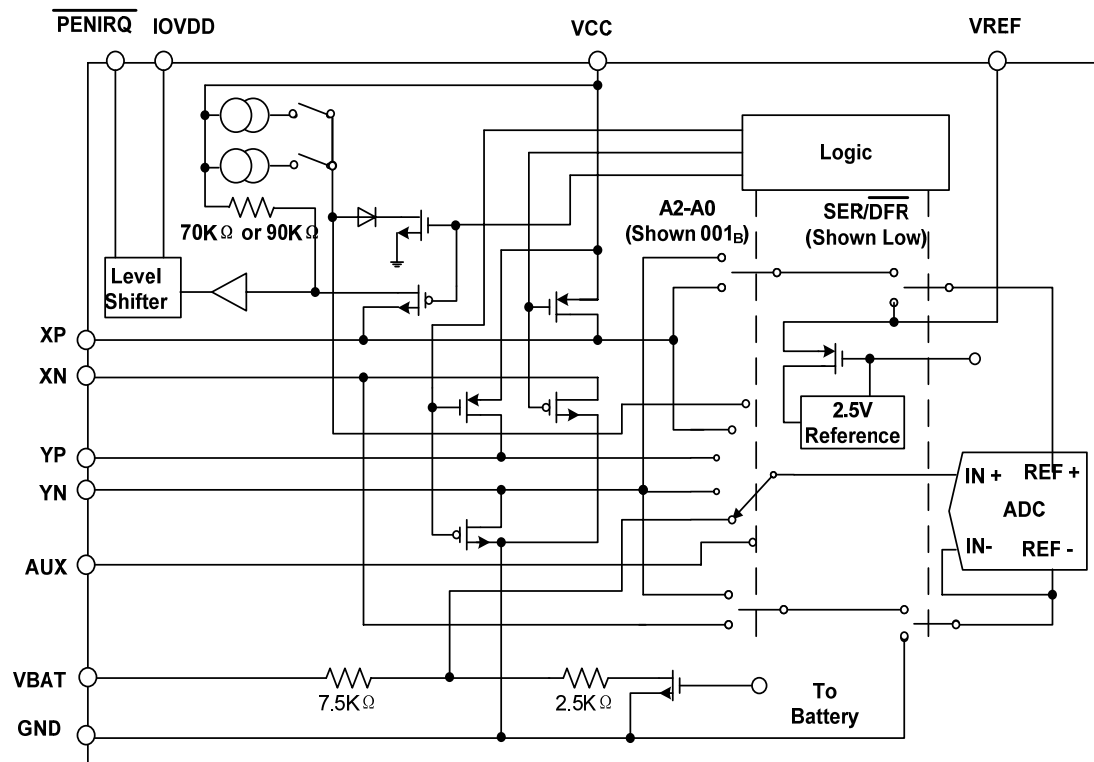
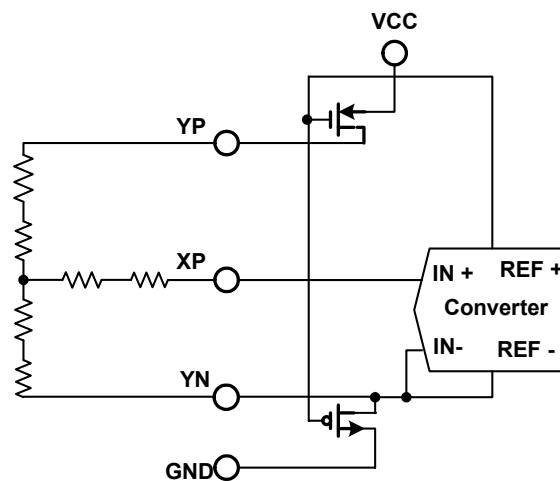

Figure 5. Simplified Diagram of Analog Input
Figure 8. Simplified Diagram of Differential Reference (SER/DFR low, Y switches enabled, X+ is analog input)
Figure 5 shows a block diagram of the input multiplexer on the XPT2046, the differential input of the ADC, and the differential reference of the converter. Table 4 and Table 5 show the relationship between the A2, A1, A0, and SER/DFR control bits and the configuration of the XPT2046. The control bits are provided serially via the DIN pin—see the *Digital Interface* section of this data sheet for more details.
The voltage difference between +REF and –REF (see Figure 5) sets the analog input range. The XPT2046 operates with a reference in the range of 1V to +VCC. There are several critical items concerning the reference input and its wide voltage range. As the reference voltage is reduced, the analog voltage weight of each digital output code is also reduced.
This situation can be remedied as shown in Figure 8. By setting the SER/DFR bit low, the +REF and -REF inputs are connected directly to Y+ and Y-, respectively, which makes the analog-to-digital conversion ratiometric. The result of the conversion is always a percentage of the external resistance, regardless of how it changes in relation to the on-resistance of the internal switches. Note that there is an important consideration regarding power dissipation when using the ratiometric mode of operation (see the *Power Dissipation* section for more details). As a final note about the differential reference mode, it must be used with +VCC as the source of the +REF voltage and cannot be used with VREF. It is possible to use a high-precision reference on VREF and single-ended reference mode for measurements which do not need to be ratiometric. In some cases, it is possible to power the converter directly from a precision reference. Most references can provide enough power for the XPT2046, but might not be able to supply enough current for the external load (such as a resistive touch screen).
**Addressing**—The next three bits (A2, A1, and A0) select the active input channel(s) of the input multiplexer (see Table 1, Table 2, and Figure 5), touch screen drivers, and the reference inputs.
**SER/DFR**—The SER/DFR bit controls the reference mode, either single-ended (high) or differential (low). The differential mode is also referred to as the ratiometric conversion mode and is preferred for X-Position, Y-Position, and Pressure-Touch measurements for optimum performance. The reference is derived from the voltage at the switch drivers, which is almost the same as the voltage to the touch screen. In this case, a reference voltage is not needed as the reference voltage to the ADC is the voltage across the touch screen. In the single-ended mode, the converter reference voltage is always the difference between the VREF and GND pins (see Table 1 and Table 2, and Figure 5 through Figure 8, for further information).